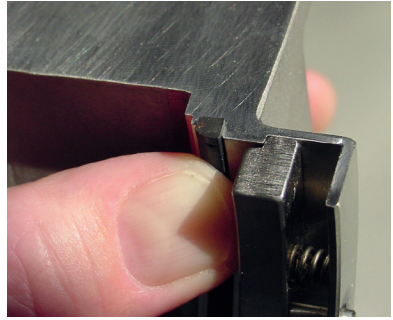

Figure 18
- 6.2 Install the seat gasket into the groove. Hold the seat gasket in the groove and adjust it so the end extends 0.025 to 0.035 inch (0.65 to 0.90 mm) past the gland joint surface. See Figure 18.